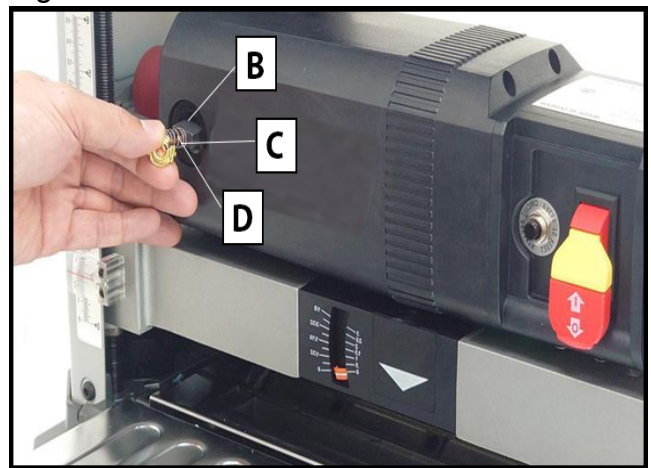

Figure 13
2. Once the brush has been removed, inspect the carbon (B), the spring (C), and the wire (D). SEE FIG 13.